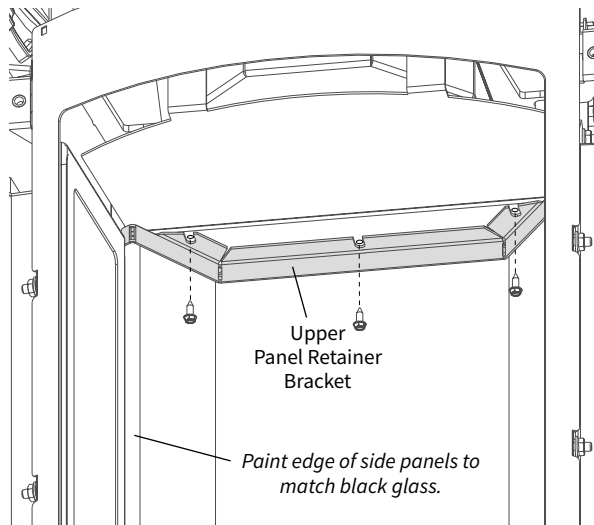

Figure 25. Loosen the panel retainer screws.
- Remove the Upper Retainer Bracket from the firebox with removal of three #8 x 12 sheet metal screws. See fig. 25.